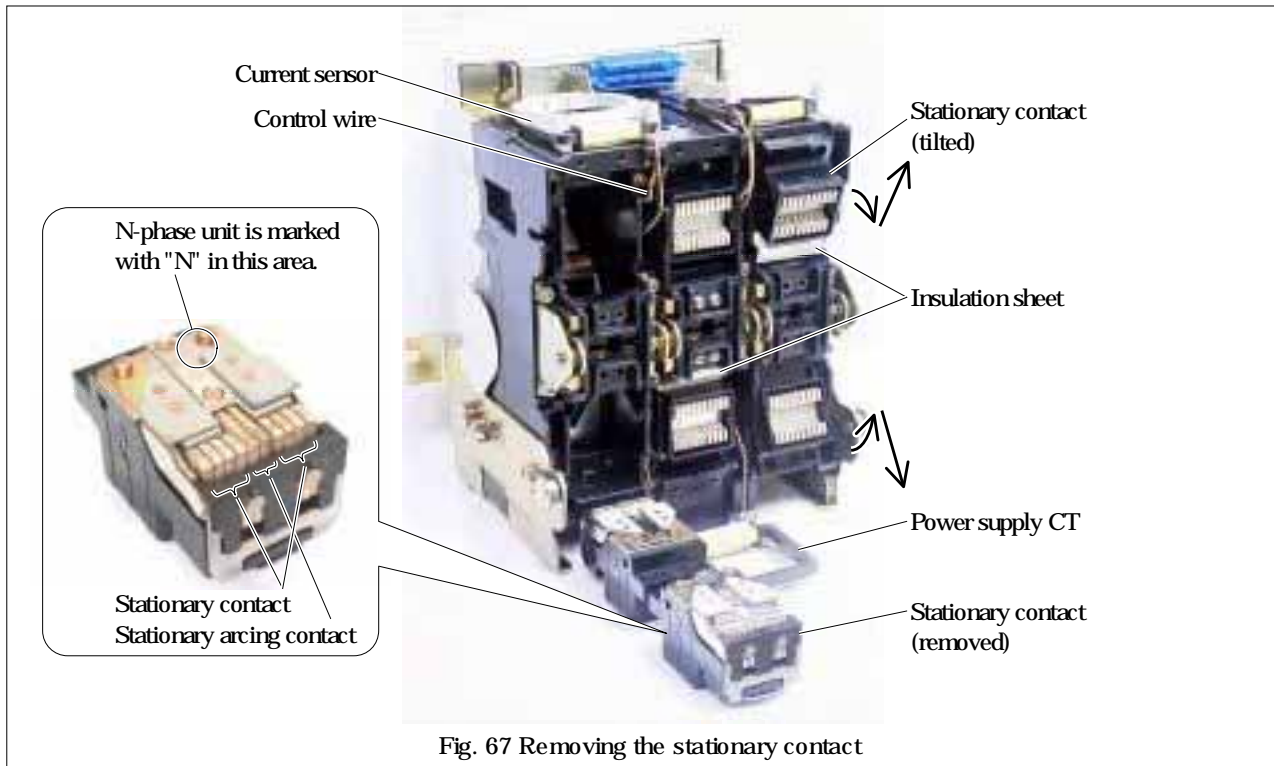

Fig. 67 Removing the stationary contact
- 4) Tilt and remove the stationary contact as shown in Fig. 67. (The insulation sheet will be removed at the same time.) If the current sensor and power supply CT hinder the removal of the stationary contact, make a record of the ties for control wires between the current sensor and power supply CT (position/number of ties and type of control wires) using a digital camera, then cut the ties and remove the stationary contact. Restore the ties after replacing the stationary contact.